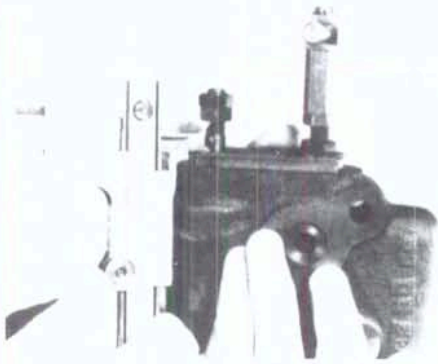
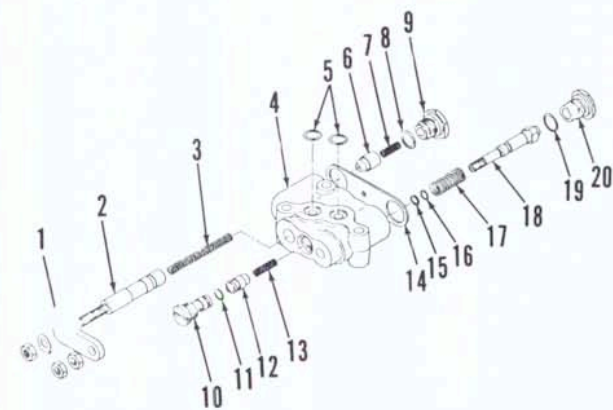

Fig. 167—Measure distance from plate to poppet locknut before disassembling valve. Record measurement for use in reassembly.
Fig. 168—Exploded view of position control valve assembly.
Before disassembling valve, move plate (Fig. 167) against valve body and measure and record distance between plate and poppet valve locknut. When reassembling valve, install locknut to same dimension. Remove nuts from poppet valve (18—Fig. 168). Withdraw valve spool (2) and plate (1). Remove plugs (9 and 20), plate (14) and unloading valve (6). Pull poppet valve (18) and spring (17) from valve body. Unscrew check valve seat (10) and remove check valve (12) and spring (13).
When reassembling valve, tighten check valve seat (10) to a torque of 49-59 N·m (36-43 ft.-lbs.). Be sure "O" ring (16) and back-up ring (15) are correctly positioned on poppet valve. Tighten plugs (9 and 20) to a torque of 69-88 N·m (50-65 ft.-lbs.). Install poppet valve locknuts to same dimension as measured prior to disassembly (Fig. 167). To adjust poppet valve lower nut until it contacts plate, then loosen nut 1/2-turn and lock in place with jam nut.